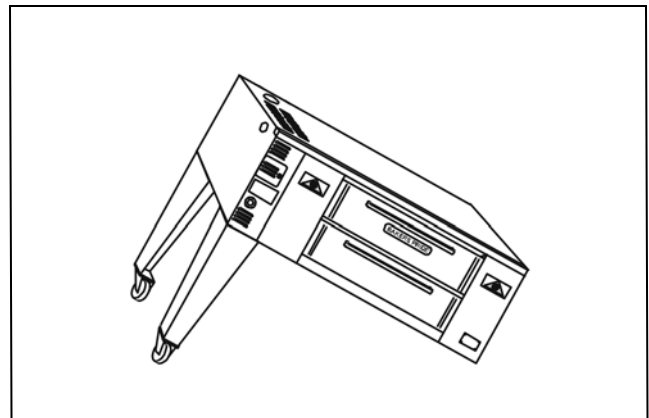

Figure 5
- b) Bolt side braces and rear brace to legs using supplied 3/8-16 x 3/4 bolts, lock washer, and flat washer. (See Fig. 5).